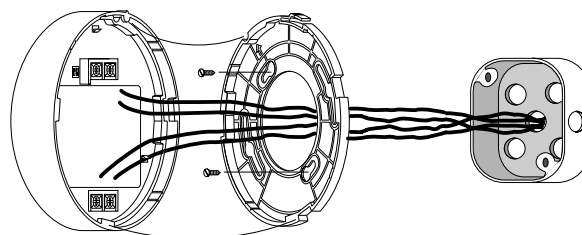

Figure 3. Detector installation
4. Line up and attach the mounting base to the electrical box, wall or ceiling using the screws provided. Use the wall anchors if necessary. See Figure 3.